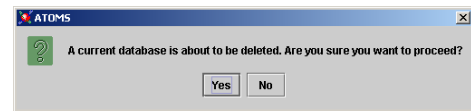

Figure 4-32. Delete Old Database
- 3) Select **Create Where**. The Create new ATOMS database window disappears. If a database already exists in the directory selected, a warning message appears (Figure 4-32). Selecting **No** to delete aborts the New Database function; selecting **Yes** continues the process.